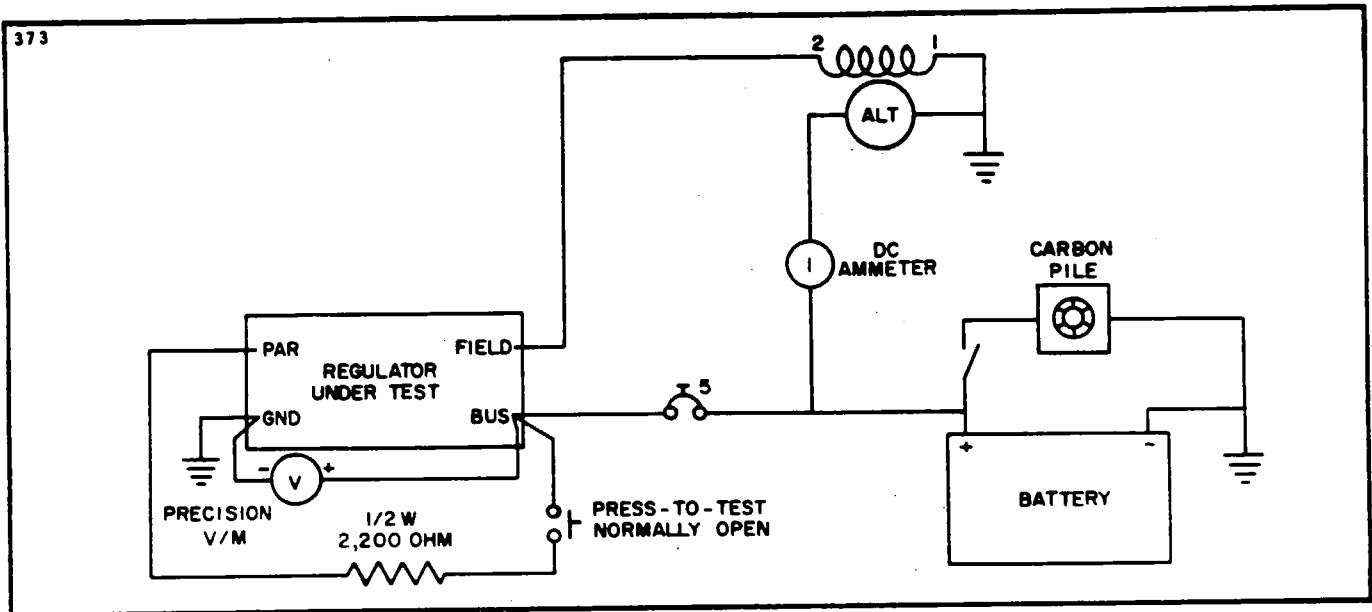

Figure 11-19. Testing Regulator (Lamar)
a. The procedure for testing the regulator, whether on the airplane or on the test bench, remains the same. Connect the test meters and regulator wiring as shown in Figure 11-19.
d. With the connections made as shown in Figure 11-19, start the engine and adjust its speed to obtain an RPM of 1500. Adjust the carbon pile or accessory load to establish the 10 to 15 ampere load value. Note that the battery charge current is indicated by the ammeter. Therefore, the current value may change downward at the beginning of a test run. This will be especially true if the battery was used for engine starting.